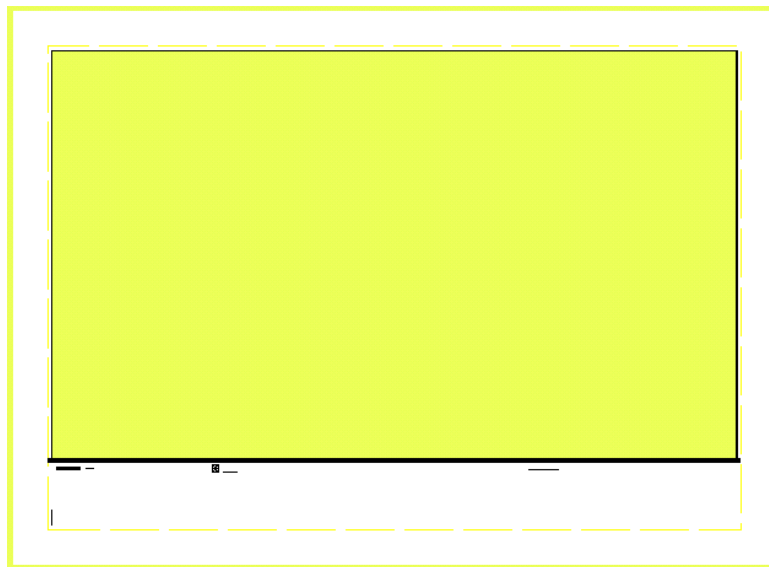

Figure 4-100
45. Go to *Plot Template* and click on *Move Fills to Back*. The legend symbols, text and #CONA# should now be visible. See Figure 4-100.